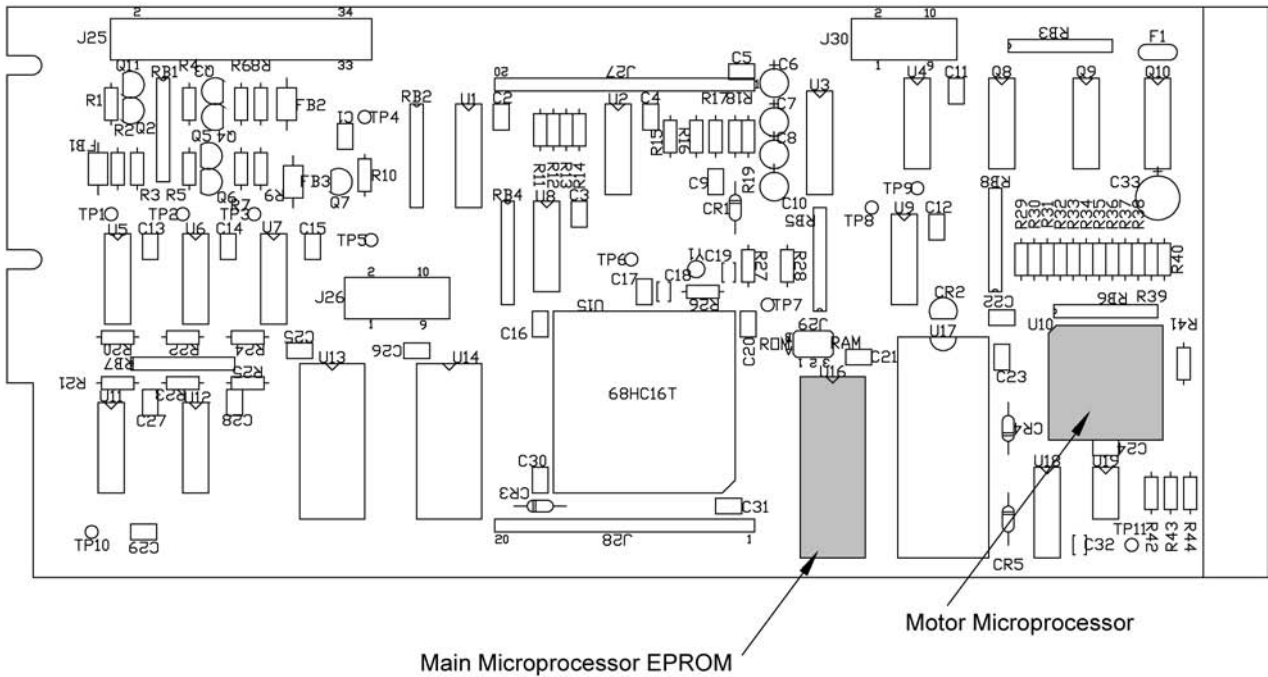

Figure 8-6
- 9.** Locate the main microprocessor EPROM on the digital circuit board (Figure 8-6). Remove the main microprocessor EPROM by inserting the tip of a small flat screwdriver under the short side of the chip and *gently* twisting.
- 11.** Align the new chip in the socket, making sure notch in the microprocessor EPROM matches the position in Figure 8-6. Apply pressure to the center of the chip until it snaps down into the socket. Press *firmly* to make sure it is seated properly and **check to see that there are no bent or unseated pins.**
3. Locate the motor microprocessor chip on the digital circuit board (Figure 8-6). Use the 44-pin chip extractor to remove the chip.
5. Align the new chip in the socket, making sure the clipped corner of the motor microprocessor matches the position in Figure 8-6. Apply pressure to the center of the chip until it snaps down into the socket. Press *firmly* to make sure it is seated properly and check to see that there are no bent or unseated pins.